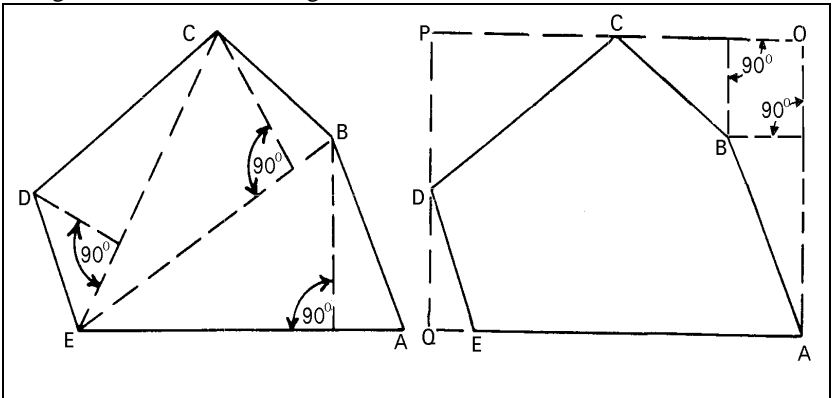

Fig 11-4-7 Calculating the Area of an Irregular Figure
5. **Calculating the Area of a Polygon.** To calculate the area of an irregular figure bounded by a number of straight lines. Divide the figure, area ABCDE in Fig 11-4-7, into a series of triangles, and use the formula for calculating the area of triangles as described in Section 3.
6. When there are no clear lines of site across the figure, the answer can be obtained by calculating the area of the containing rectangle, AOPQ in Fig 11-4-7, and subtracting the unwanted areas.